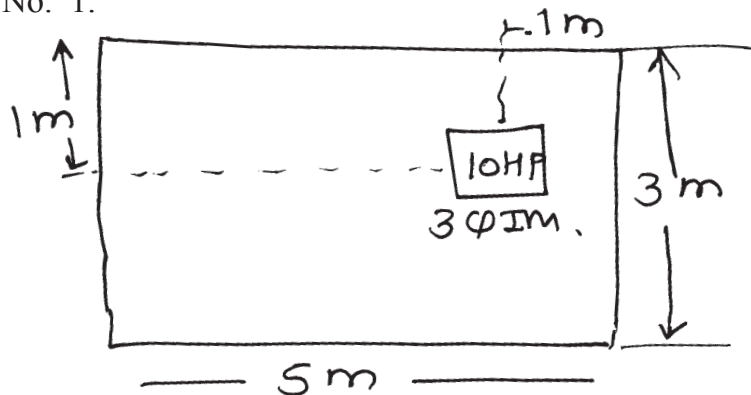

Fig. No. 1
- c) Prepare schedule of material for Industrial load as shown in Figure No. 1.